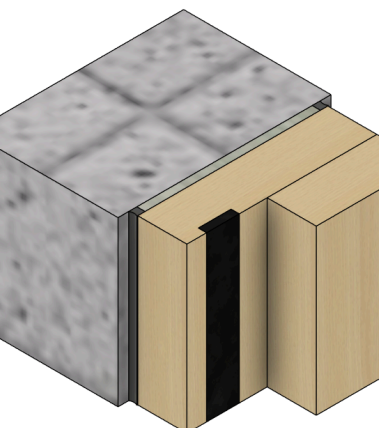

Fig.22
Step 7. Fix the door stop in place, 12g (Gauge) x 65mm Fixing Screws. (same render as Fig.22)